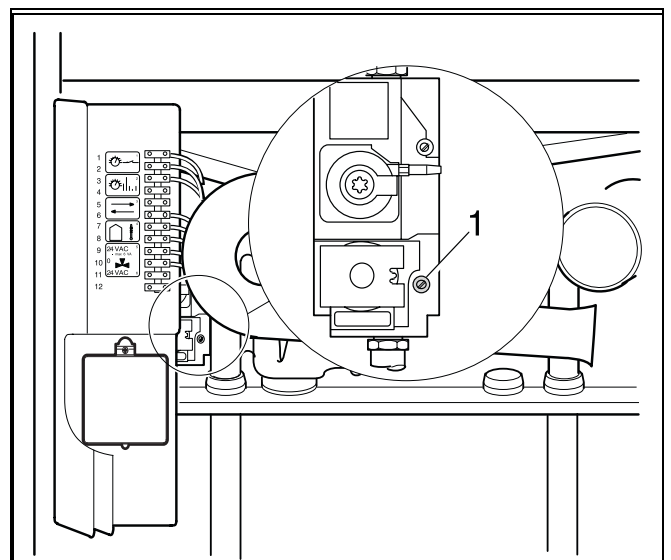
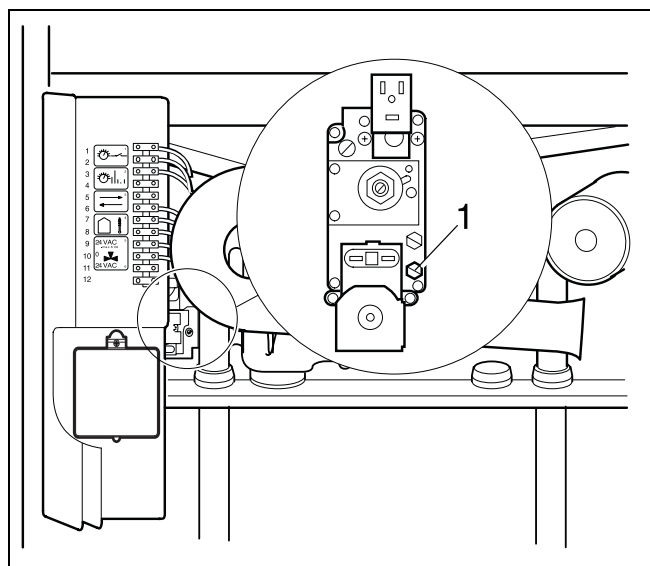

fig. 29 Purging the gas supply pipe (Honeywell gas units)
fig. 30 Purging the gas supply pipe (SIT gas units)
- Loosen the screw plug on the gas connection and air purging test nipple on Honeywell gas units two turns (fig. 29, item 1), fully unscrew the plug on SIT gas units (fig. 30, item 1) and fit the hose.